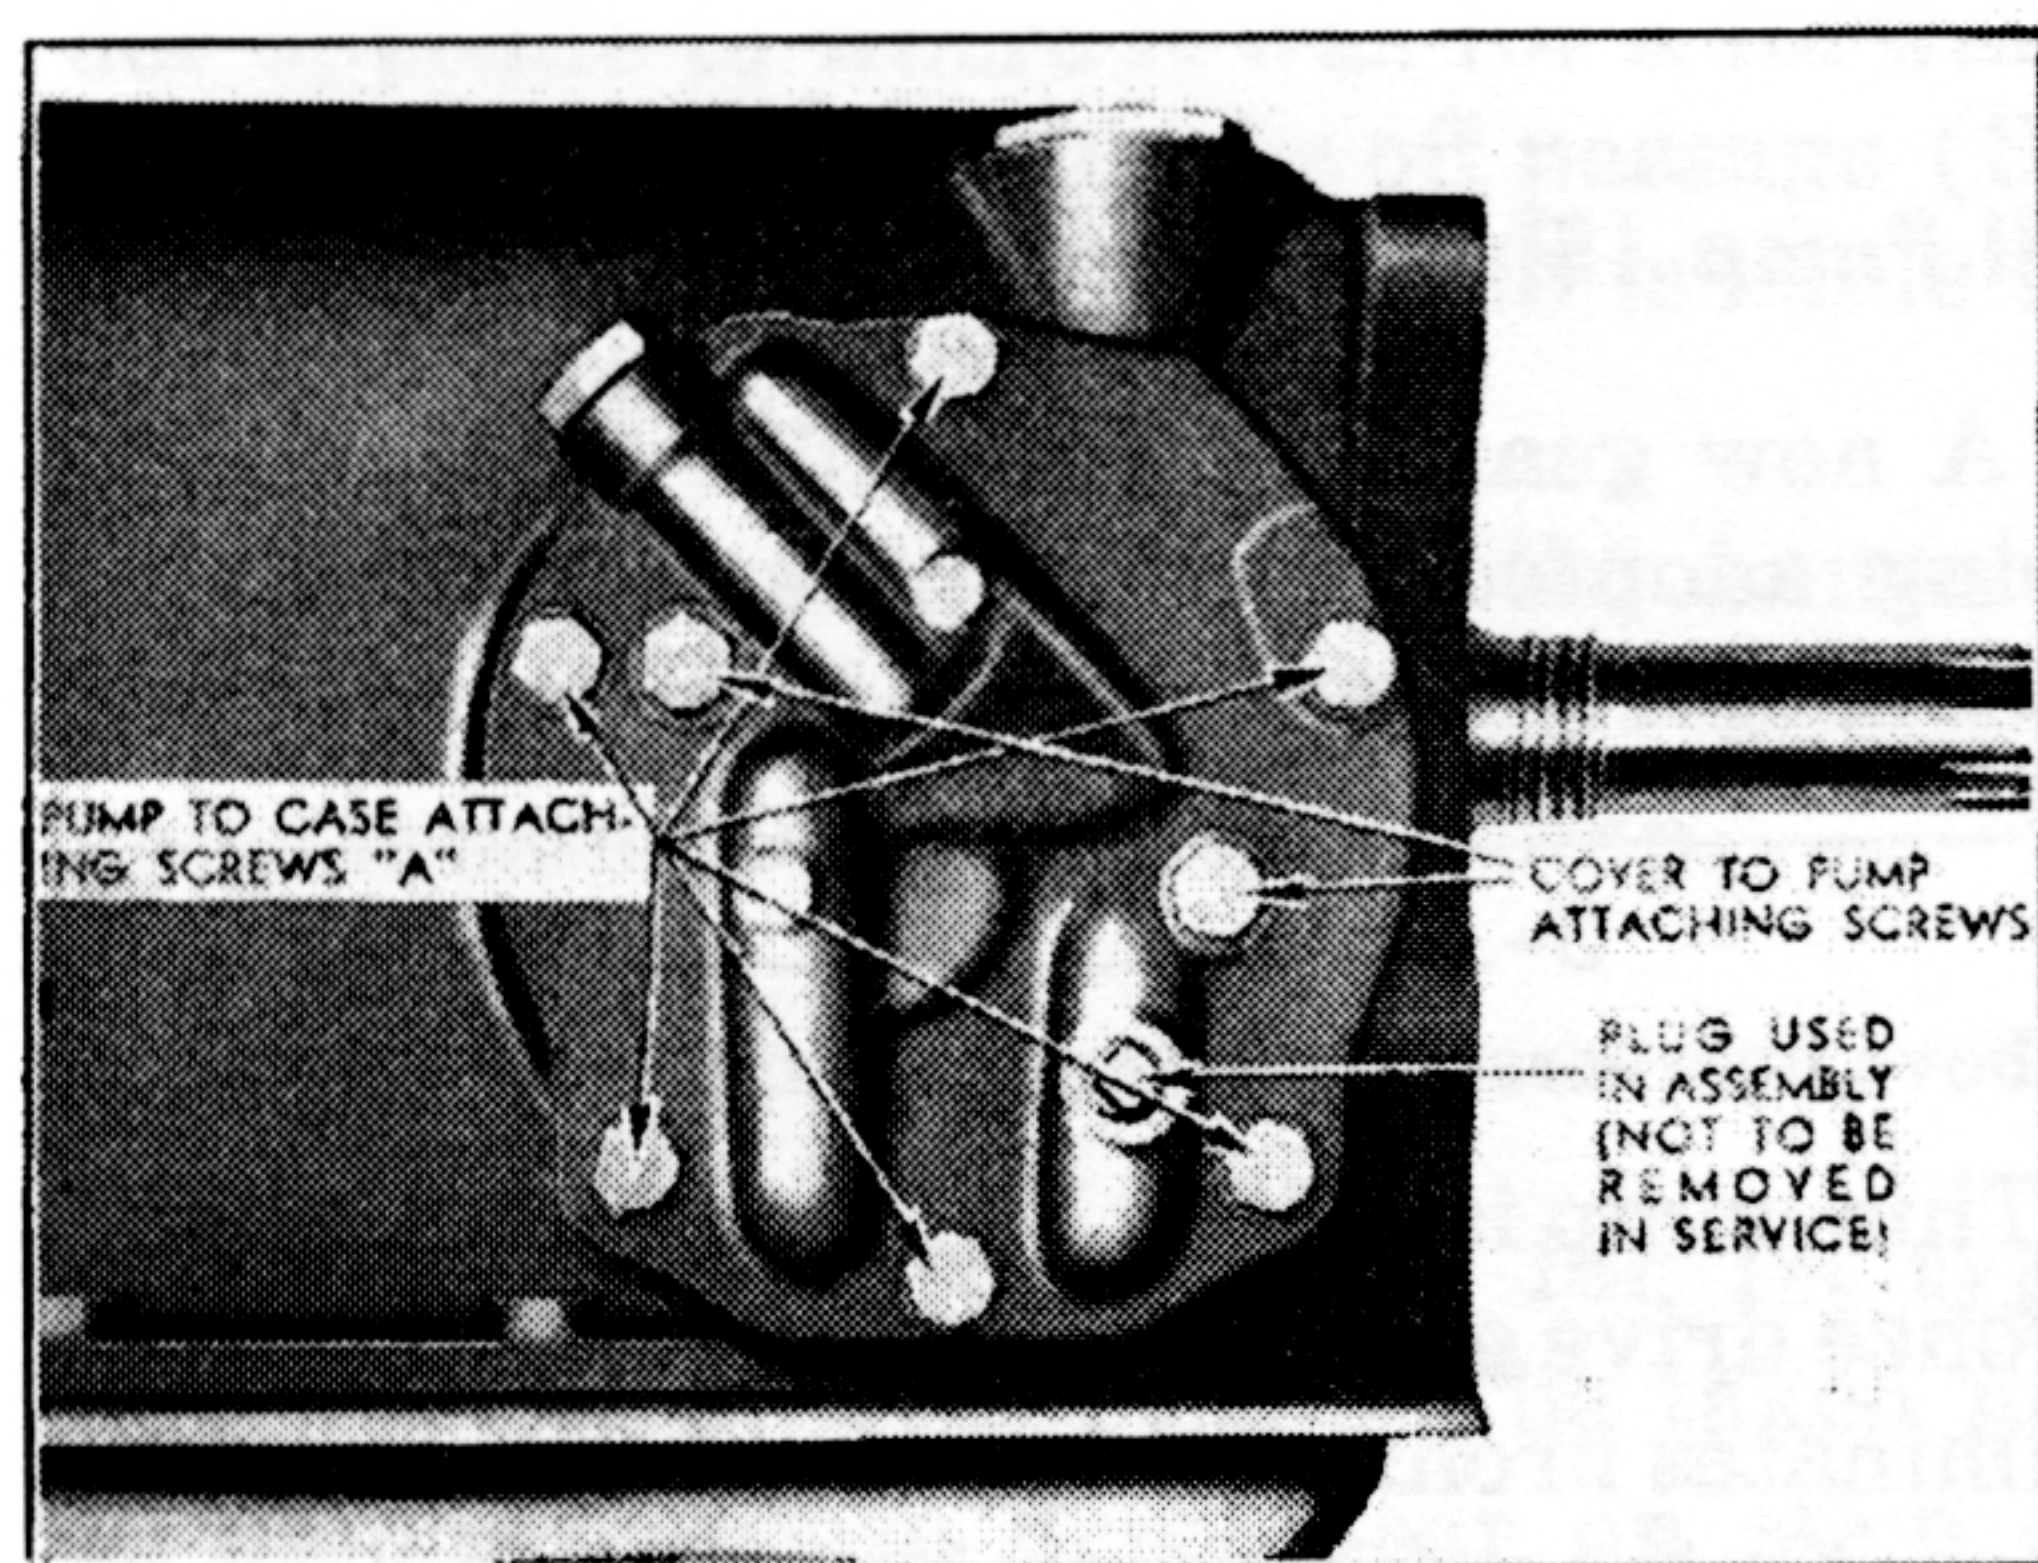

Fig. 4. Oil Pump Location
2. Remove oil pump to transmission case cap screws "A." See Fig. 4.
1. Remove the two pump cover to pump body attaching screws. (See Fig. 4.)